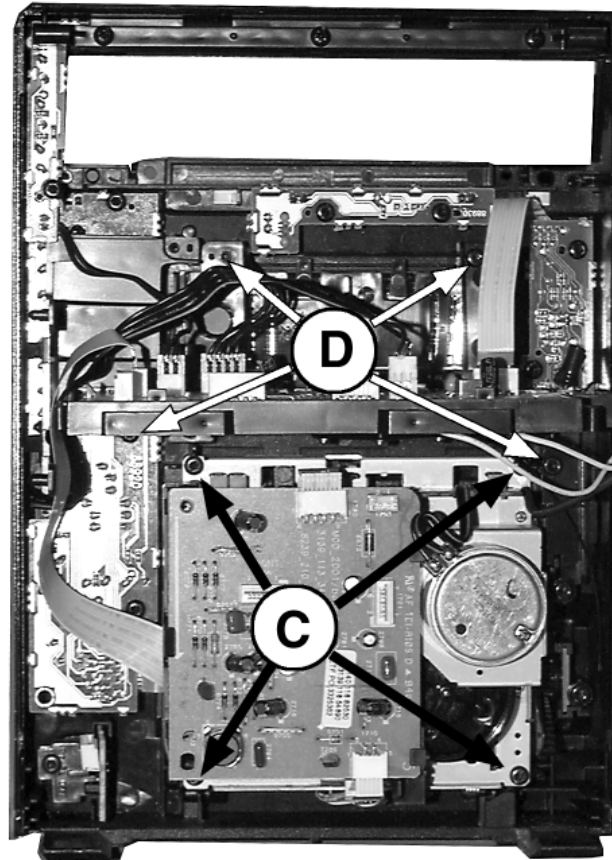

figure 7
- 1) Loosen 4 screws C in figure 7 to remove the ETF8 Module.